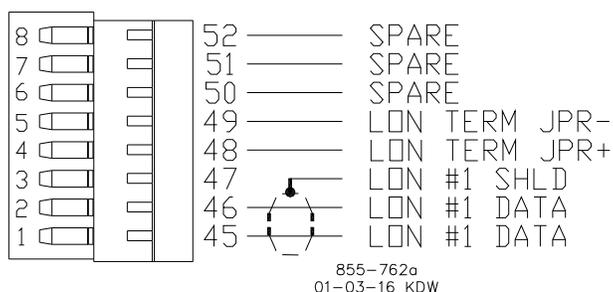

Figure 6-14. LON Interface to the PowerSense Board
- Refer to Figure 6-14 for LON channel wiring.